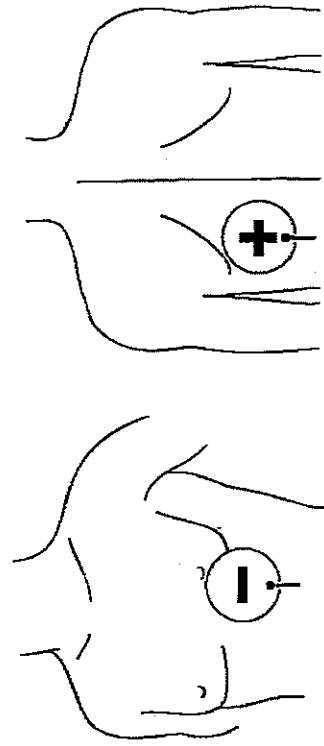

Figure 5-3 Anterior-posterior electrode placement for pacing
- 7 Place the black ANTERIOR (-) electrode on the left anterior torso, halfway between the xiphoid process and the left nipple at apex of the heart. The upper edge of electrode should be below the nipple (see Figure 5-3). Avoid placement over the nipple, diaphragm, or sternum, if possible.
- 8 Place red POSTERIOR (+) electrode on left posterior torso beneath the scapula and lateral to the spine at heart level. Avoid placement of the electrode over the bony prominences of the spine or scapula (see Figure 5-3).